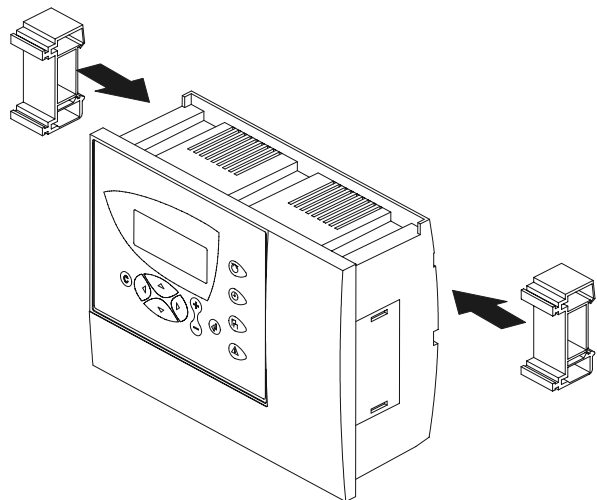

Fig. 14. Inside cabinet mounting (models with MMI) (a)
6. Attach the DIN rail mounting clips to housing (Fig. 14).